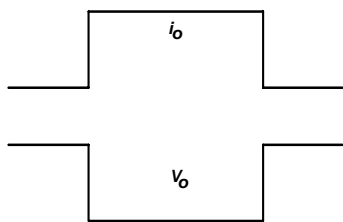
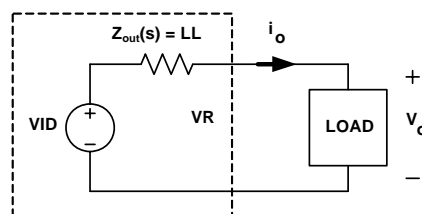

FIGURE 18. DESIRED LOAD TRANSIENT RESPONSE WAVEFORMS
FIGURE 24. VOLTAGE REGULATOR EQUIVALENT CIRCUIT
Assuming the compensator design is correct, Figure 18 shows the expected load transient response waveforms if C_n is correctly selected. When the load current I_{core} has a square change, the output voltage V_{core} also has a square response.
Figure 18 shows the desired load transient response waveforms. Figure 24 shows the equivalent circuit of a voltage regulator (VR) with the droop function. A VR is equivalent to a voltage source (= VID) and output impedance $Z_{out}(s)$. If $Z_{out}(s)$ is equal to the load line slope LL , i.e., constant output impedance, in the entire frequency range, V_o will have square response when I_o has a square change.